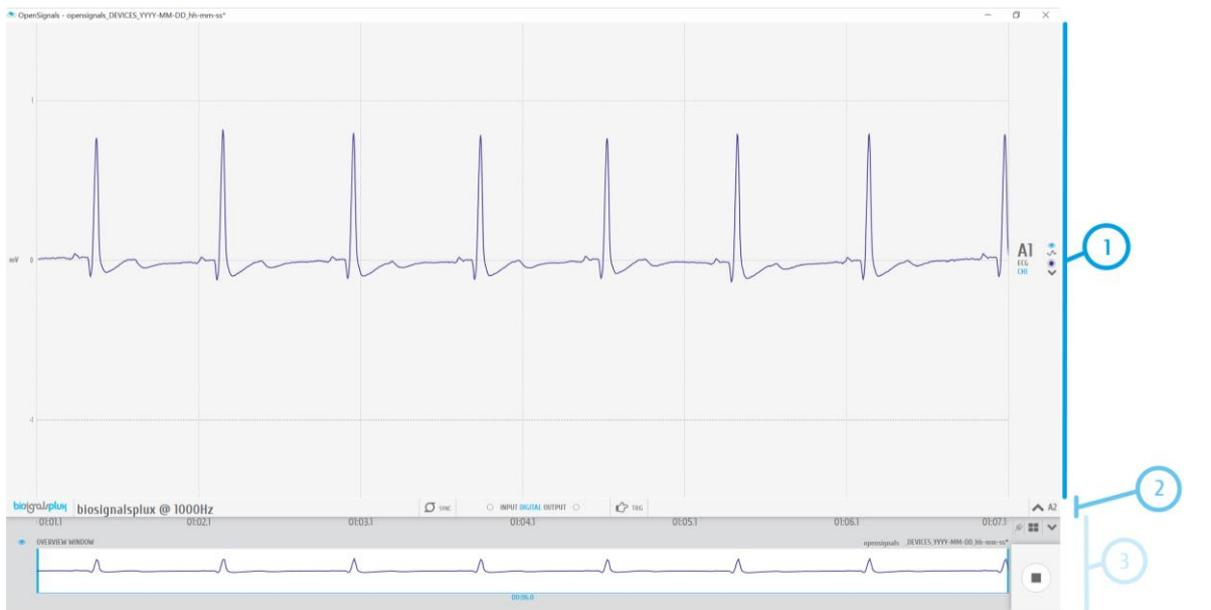

Figure 95: Sections of the visualization mode.
- Signal acquisition (1 in Figure 95; see 3.1.1 Signal Acquisition)
- Information bar (2 in Figure 95; see 3.1.2 Information Bar)
- Control bar (3 in Figure 95; see 3.1.3 Control Bar)